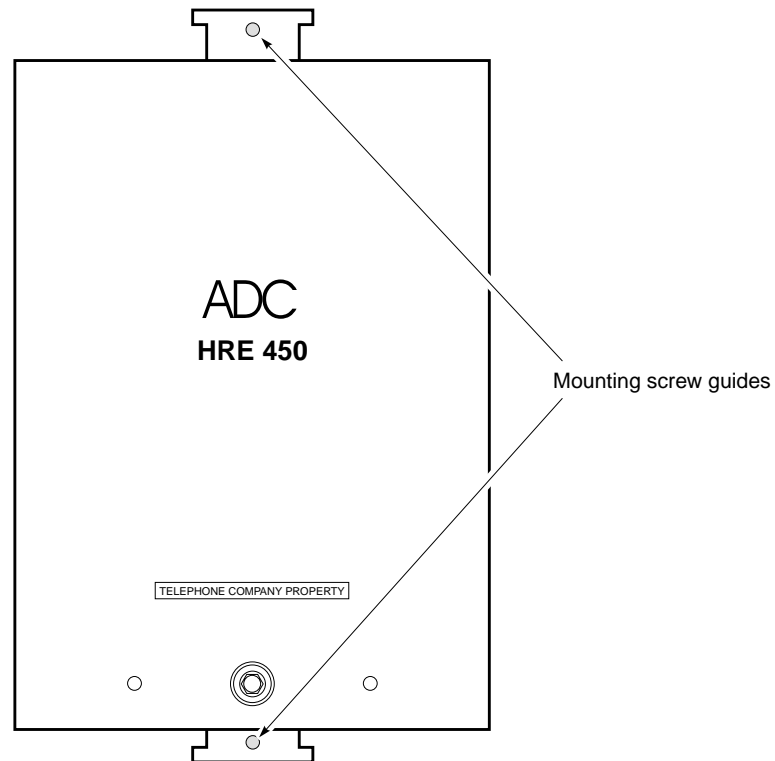

Figure 5. Locating the Mounting Screw Guides
- 3 Place the HRE-450 List 4A in the selected installation location, then mark the mounting screw hole locations on the installation surface, using the mounting screw guides (see Figure 5).